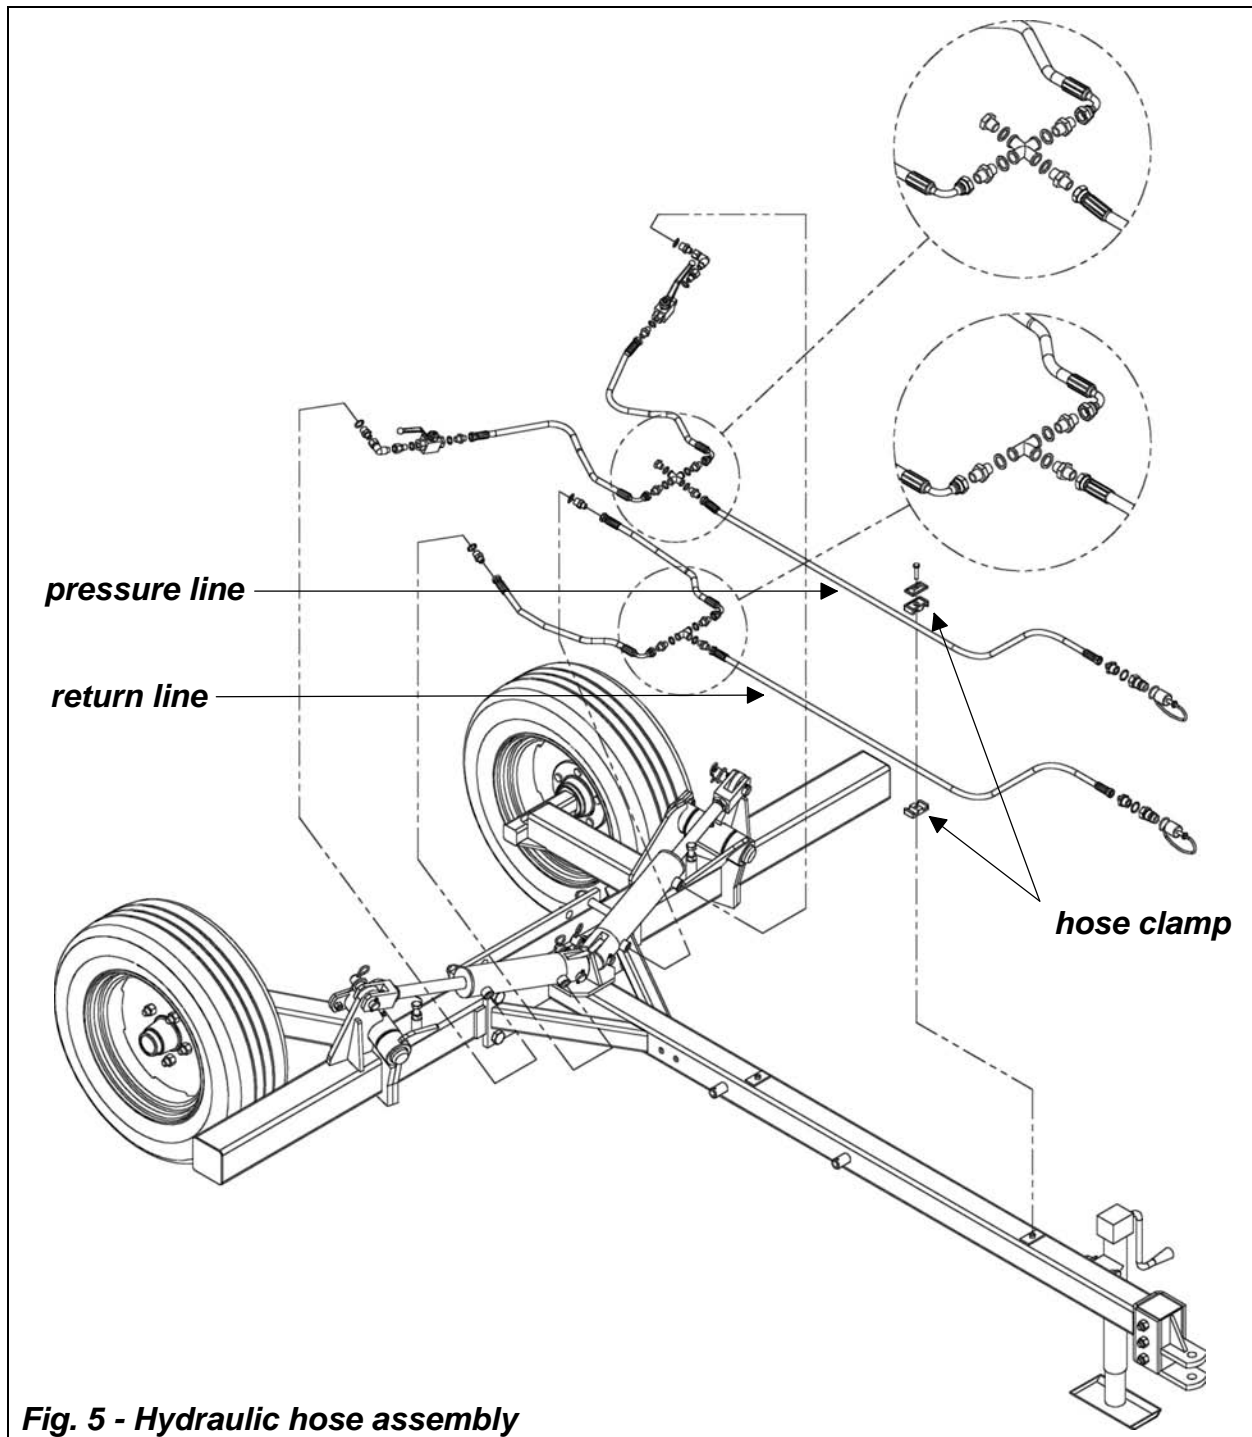

Fig. 5 - Hydraulic hose assembly
7. Assemble the pressure line towards the piston side of the hydraulic cylinder using the 3/8" to 1/4" adaptor and the copper washers between the fittings (**see fig. 5**).
8. Assemble the return line towards the bottom of the housing of the hydraulic cylinder using the 3/8" to 1/4" adaptor and the copper washers between the fittings (**see fig. 5**).